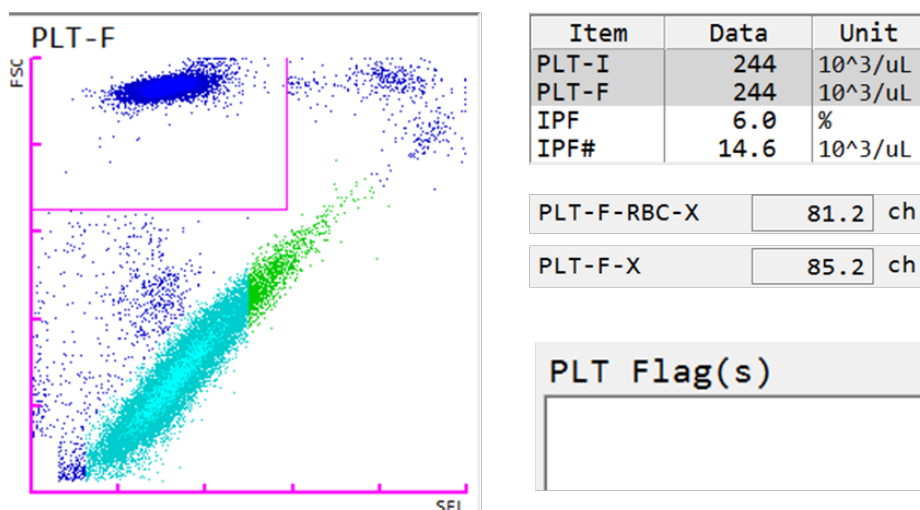

Fig. 1: Sample with a correct PLT-F classification and normal fluorescence intensity
- After reagent replenishment, analyse at least five human blood samples and verify the PLT-F scattergram for abnormalities (review above Fig. 1 and Fig. 2) to ensure the reagent is correctly replenished.